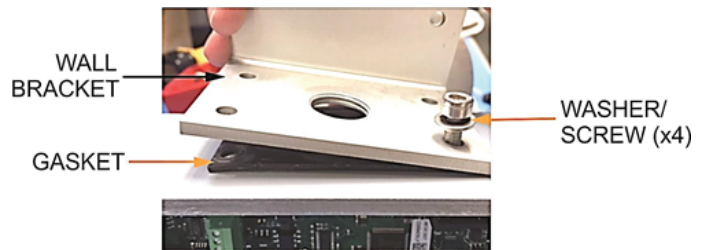

Figure 6: M5000 gasket on amplifier
- Place four (4) M5 Stat-O-Seal washers on four (4) M5 x 16 socket head cap screws.
- Set the *gasket* on the amplifier box. See Figure 6.
- Lay the *wall bracket* on the gasket. See Figure 6.
- Thread the four (4) screws with washers into the wall bracket and torque to 4.7 Nm. See Figure 6.